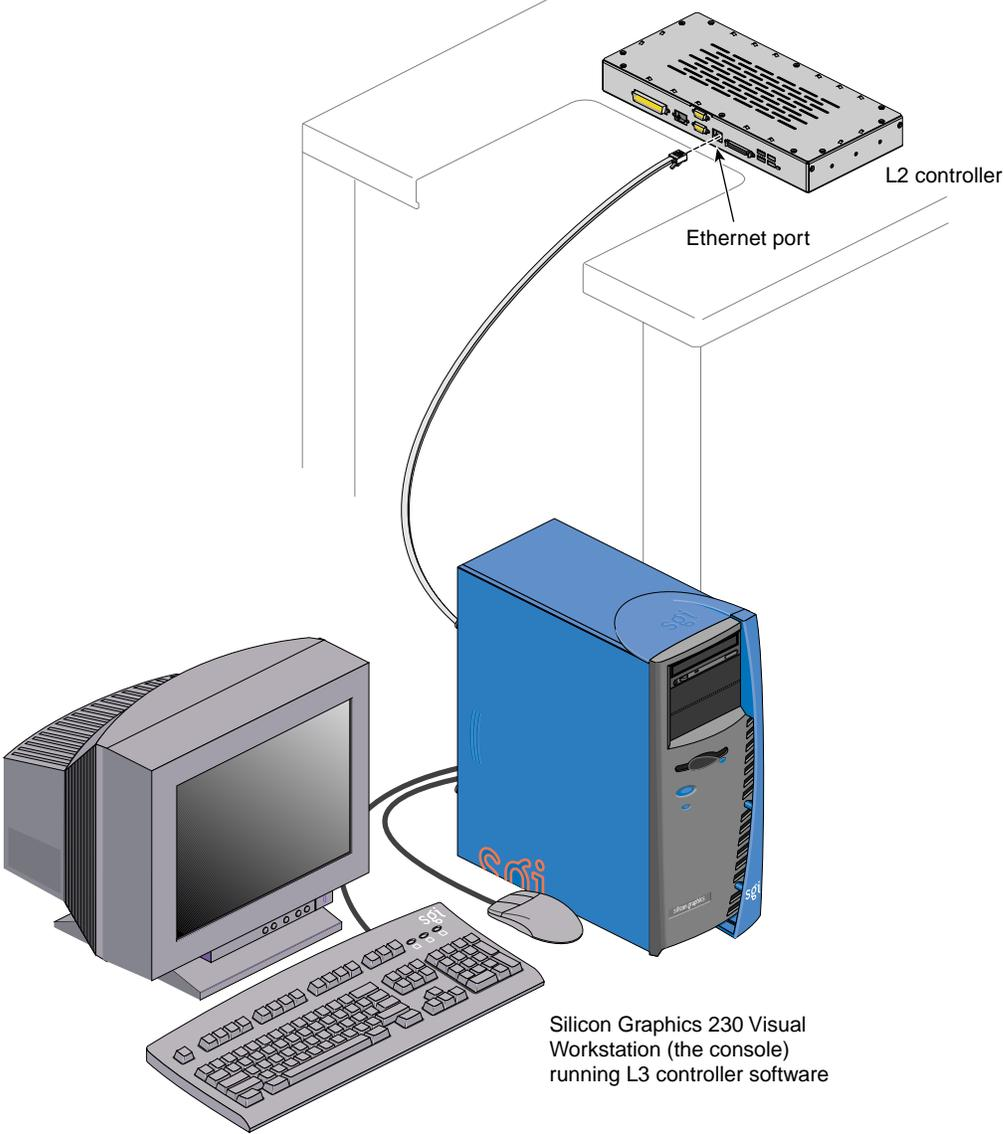

Figure 2-3 Connecting Console to an L2 Controller Ethernet Port
- If you have a server with an L2 controller, always connect your console to the L2 controller. If your console is a Silicon Graphics 230 Visual Workstation running L3 controller software on the Linux operating system, connect the console to the L2 controller's Ethernet port connector as shown in Figure 2-3. Use this option for a server system with a single L2 controller.